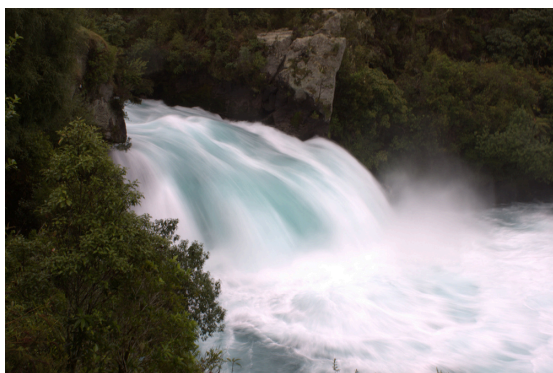

FIGURE 12.29 The Huka Falls in Taupo, New Zealand, demonstrate flow rate. (credit: RaviGogna, Flickr)
5. The Huka Falls on the Waikato River is one of New Zealand's most visited natural tourist attractions (see Figure 12.29). On average the river has a flow rate of about 300,000 L/s. At the gorge, the river narrows to 20 m wide and averages 20 m deep. (a) What is the average speed of the river in the gorge? (b) What is the average speed of the water in the river downstream of the falls when it widens to 60 m and its depth increases to an average of 40 m?